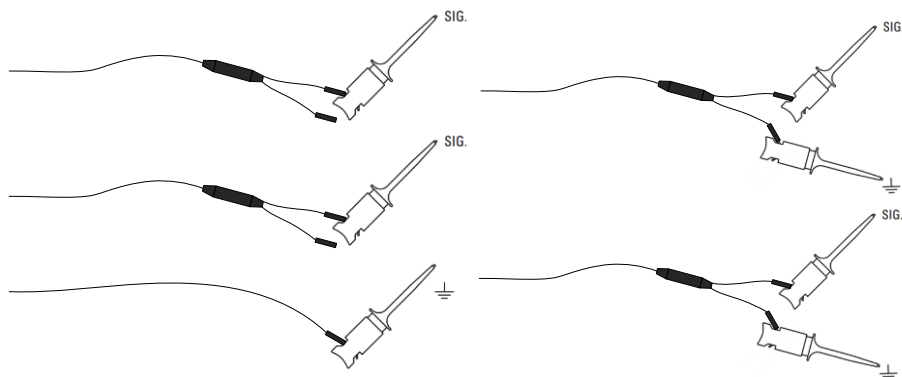

Figure 2-4
- 4) Connect probe clips to the signals being measured. For low frequency signal (<5MHz), a common ground is enough (Figure 2-4 left). For high frequency signal, an independent ground connection for each channel is recommended (Figure 2-4 right).